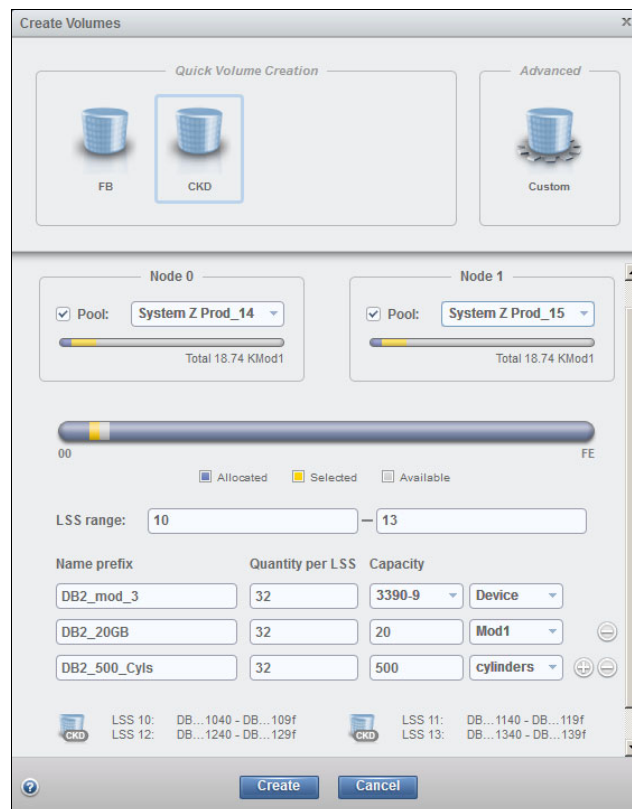

Figure 11-78 Create multiple groups of CKD volumes
3. Select **CKD** under Quick Volume Creation to display the configuration menu that is shown in Figure 11-78.
In the volume creation configuration example that is shown in Figure 11-78 on page 312, three groups of 32 volumes each are in the LSS ID range of 10 - 13. You enter a prefix name and a capacity for each group. The capacity can be specified in three ways: